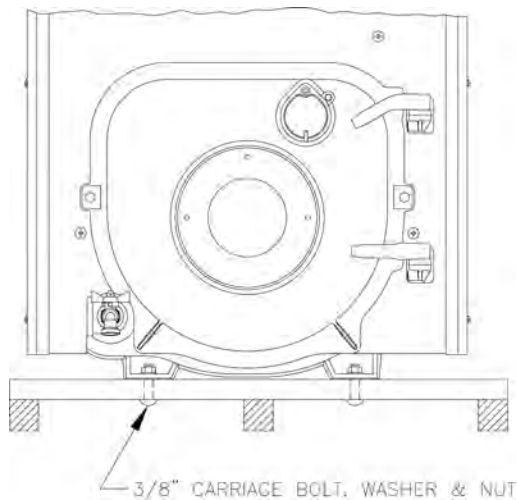

Figure 3: Removal of Boiler From Skid
1. Boiler is secured to base with 4 carriage bolts, 2 on left side and 2 on right side. See Figure 3. Remove all bolts.